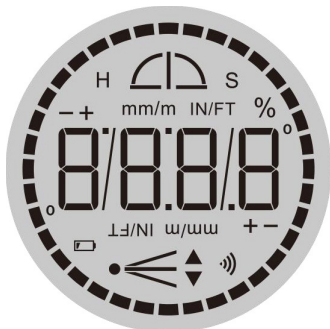

Figure 2
- The 36 LEDs around the display (8) imitate a physical bubble level (Fig. 2). Once the device is stable, 18 LEDs light up at the bottom of the display (8) to determine the current slope.